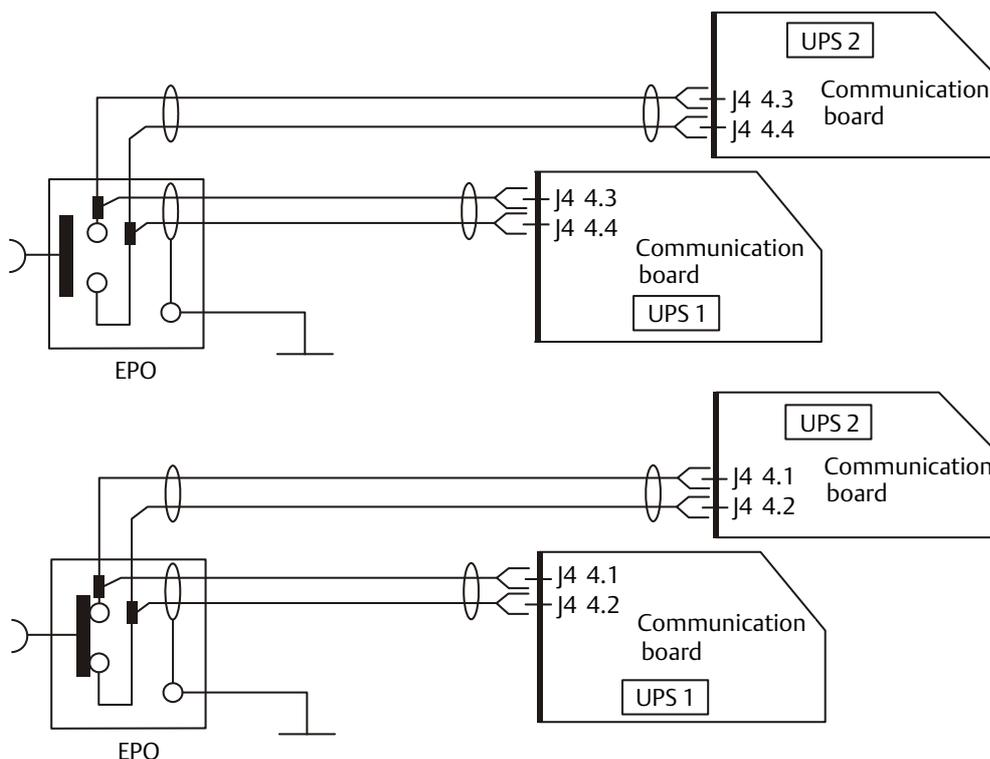

Figure 7-3 EPO circuit diagram
In addition to the individual EPO switches located on the single UPS module operator control and display panels, the parallel system also feature a remote EPO function that can be used to shut down all the UPS modules simultaneously from a remote terminal, as shown in Figure 7-3.
**Note: Figure 7-3 illustrates two alternative EPO dry contact wiring diagrams, the top one is the Normally Open type, and the bottom one is the Normally Closed type.**